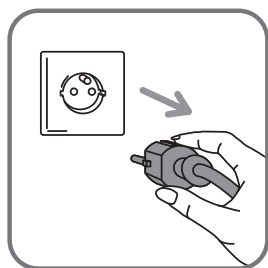

fig.1
IMPORTANT Before doing anything else, remove the sticker on the side **fig.1** Warning! Before using your iron with the steam function for the first time, we recommend that you operate the steam in a horizontal position for a few moments, away from your linen, i.e. press the Shot of Steam button a few times.
- Before filling the water tank, unplug the iron **fig.1**.